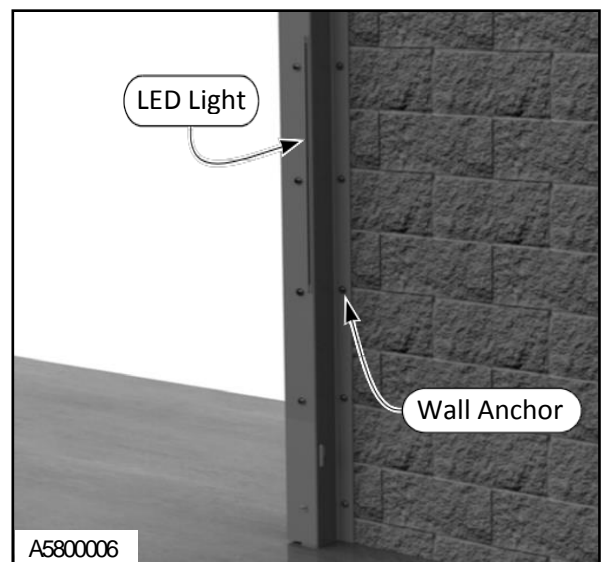

Figure 12
4. Anchor the side column. (See “ANCHORING METHODS” on page 3.) **DO NOT** completely tighten the anchors at this time — they must be tightened **after** the head assembly is installed. (See Figure 12)